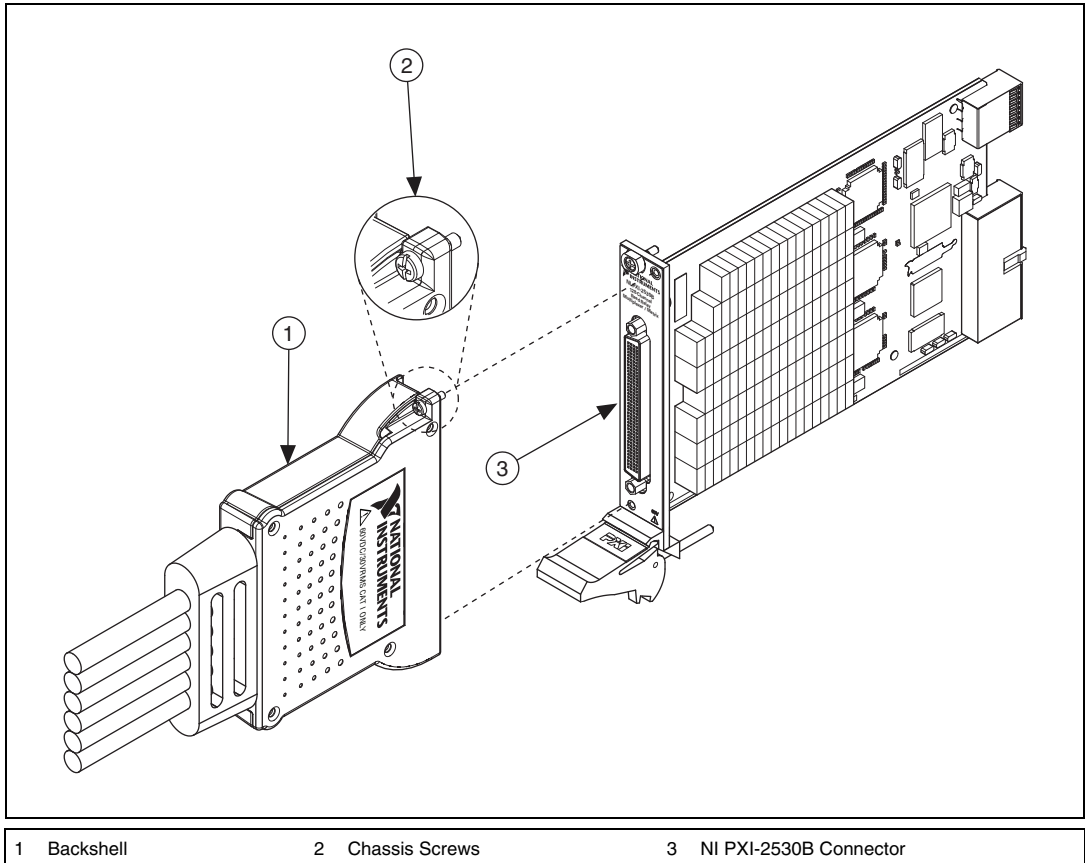

Figure 2. Connecting the Cable to the NI PXI-2530B
1. Connect the cable backshell to the NI PXI-2530B connector on the switch module as shown in Figure 2.